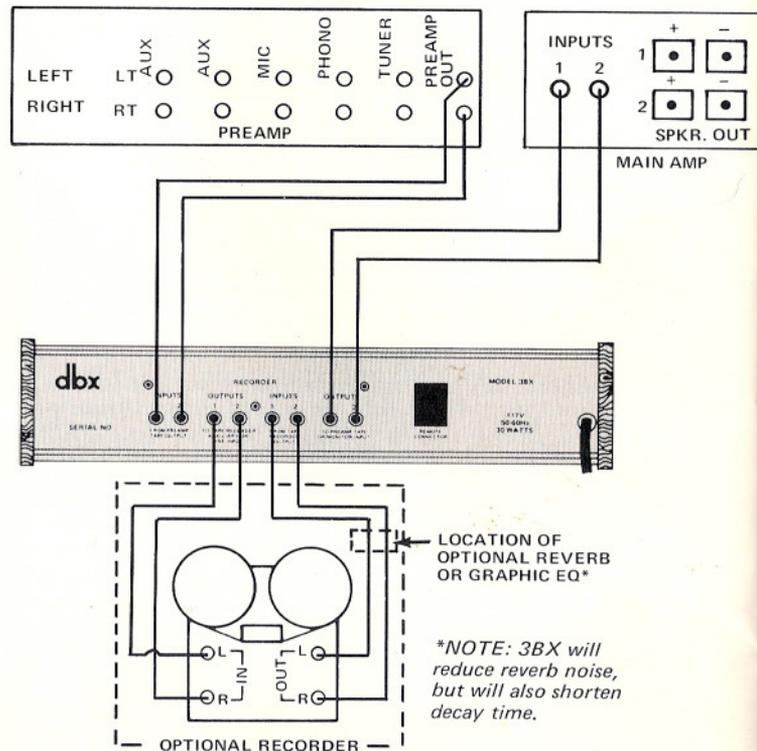

Fig. 10 — How to Connect the 3BX if You are using a Separate Preamp and Power Amplifier with no Tape Monitor Loop
2. If you connect the 3BX to the PREAMP-OUT/MAIN-AMP-IN jacks (Fig. 9) or between a preamplifier and power amplifier (Fig. 10), and also connect a tape recorder as shown, always set all tone controls to their "flat" positions when recording.